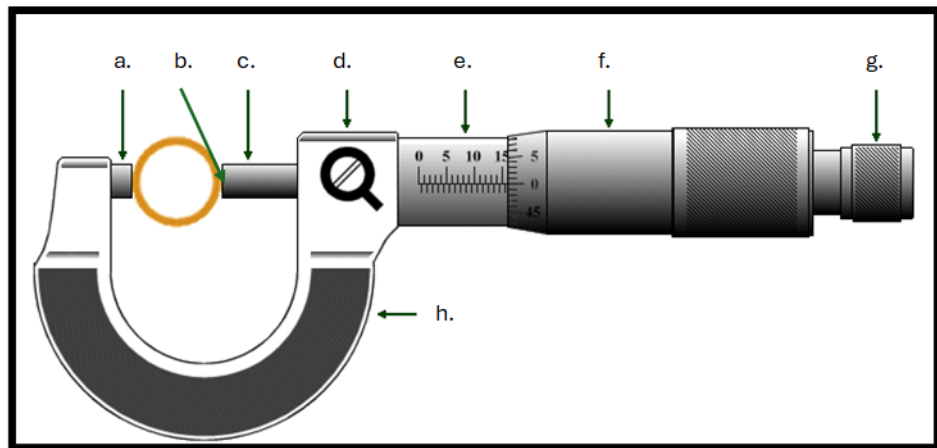

Figure 1(b) / Rajah 1(b)
- CLO1 (b) Based on Figure 1(b), fill in parts of the micrometer below.